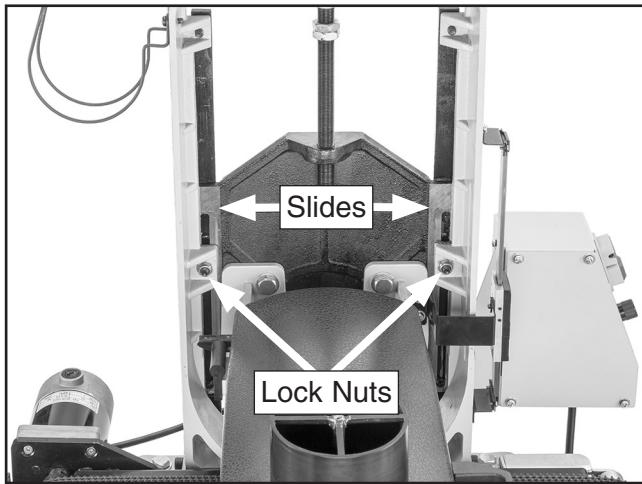

Figure 57. Location of rear slide and lock nut.
The gibbs apply pressure to the slides of the sanding head (see **Figure 57**). This allows the sanding head assembly to accurately move up and down when using the drum height handwheel.
2. Adjust lock nuts shown in **Figure 57** on both gib an equal amount, by $\frac{1}{4}$ turns.